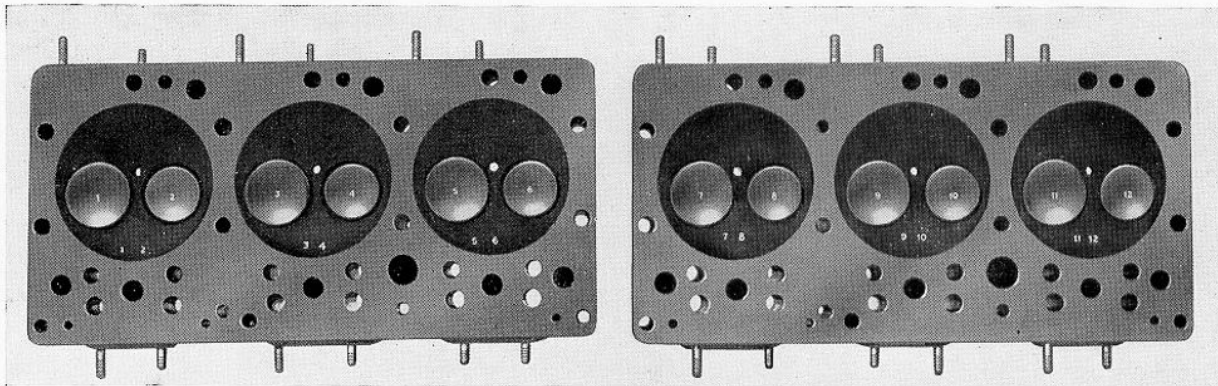

FIG. 12. POSITION OF VALVES IN CYLINDER HEADS
When removing the valves and springs for inspection and refacing, it is important that subsequently they are replaced in their original position. The heads of all valves, as fitted initially, are stamped with one of the numbers 1 to 12 to correspond with their position in the heads (Fig. 12). New valves should be similarly marked for future guidance.
**Note:** When removing the valves and springs for inspection and refacing, it is important that subsequently they are replaced in their original position. The valves and cylinder heads are numbered as shown in Fig. 12, to facilitate reassembly.